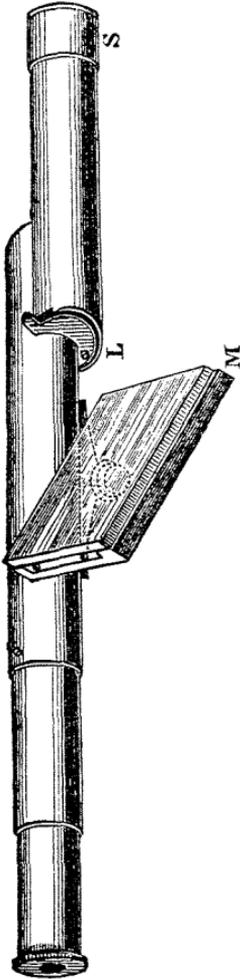
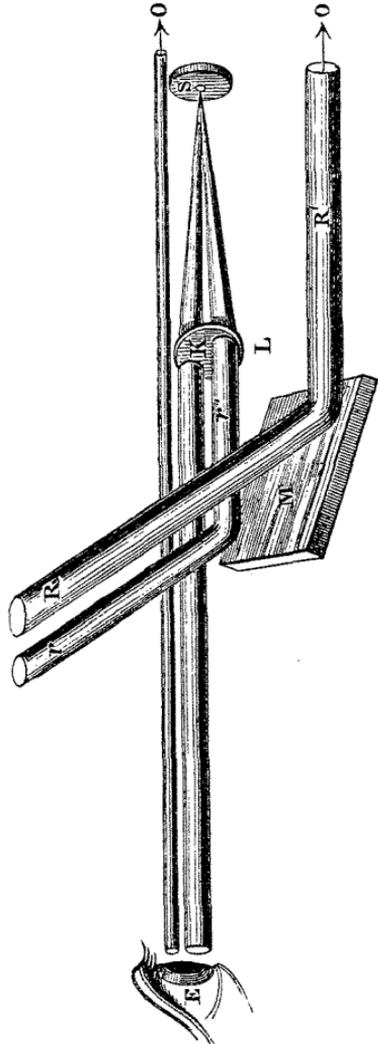

Fig. 1.
Fig. 2.
*Hand Heliostat.*—Some years ago, I took great pains to contrive a convenient pocket instrument, by which a traveller should be able to signal with the sun, and direct his flash with certainty, in whatever direction he desired. I did so in the belief that a signalling power of extraordinary intensity could thus be made use of; and, I am glad to say, I succeeded in my attempt. I at last obtained a pretty pocket instrument, the design of which I placed in the hands of Messrs. Troughton and Simms; and upon the earlier models of which I read a paper before the British Association in 1858. I called it a "hand heliostat." I always carry one when I travel, for it is a continual source of amusement. The instrument is shown in fig. 1 (p. 280), and its principle is illustrated by fig. 2. The scale is about  $\frac{2}{3}$ .
E is the eye of the signaller; M the mirror; and L, s, fig. 2, a tube, containing at one end, L, a lens, and at the other, s, a screen of white porcelain or *unpolished* ivory, placed at the exact solar focus of L: a shade,  $\kappa$ , with two holes in it, is placed before L. Let R,  $r$ , be portions of a large pencil of parallel rays; proceeding from any *one point* on the sun's surface, and reflected from the mirror, as  $\kappa' r'$  (fig. 2).  $r'$  impinges upon the lens, L, through one of the holes in  $\kappa$ , and  $\kappa'$  goes free toward some distant point, o. Those that impinge on the lens will be brought to a focus on s, where a bright speck of light might be seen. This speck radiates light in all direction; some of the rays, proceeding from it, impinge on the lens at the other hole in the shade  $\kappa$ , as shown
in fig. 2, and are reduced by its agency to *parallelism* with  $r'$  and  $R'$ , that is, with the rays that originally left the mirror: consequently  $\varepsilon$ , looking partly at the edge of the lens, and